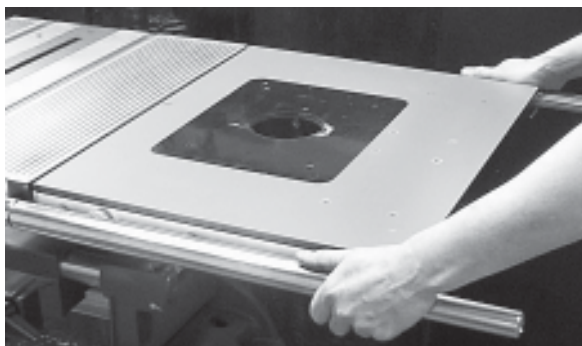

Figure 3
6. Tighten all the Jackscrews (4) of the Router Table, in place.
7. Slide the Connector Tubes into the Saw Table Tubes. (See Figure 3)